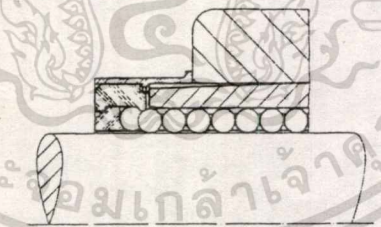

Figure 3: Retention by means of holding ring in applications with length of bore = B, (see Table 41)
- holding rings (Figure 3)
- holding rings (Figures 3 and 4)